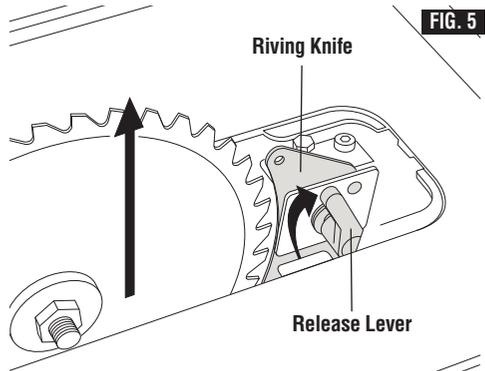

FIG. 5
2. Raise the blade as high as it will go and set it perpendicular to table (0° on bevel scale) (Fig. 5).
3. Rotate the riving knife release lever clockwise, so that it points upward (Fig. 5).